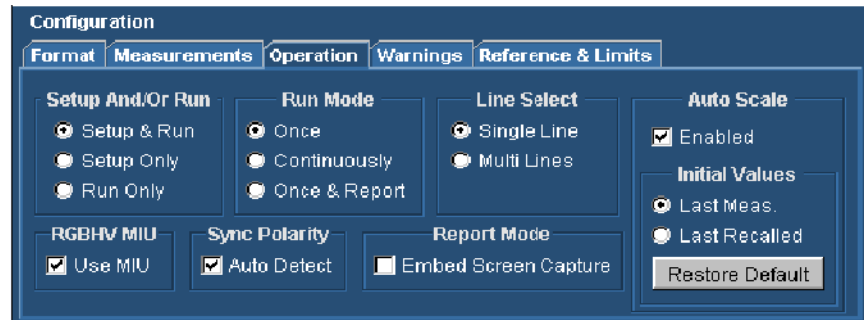

Figure 2-19: Selection of the Use MIU option on the Configuration > Operations tab
4. Verify that the **Use MIU** check box on the Configuration > Operations tab is selected. See Figure 2-19.